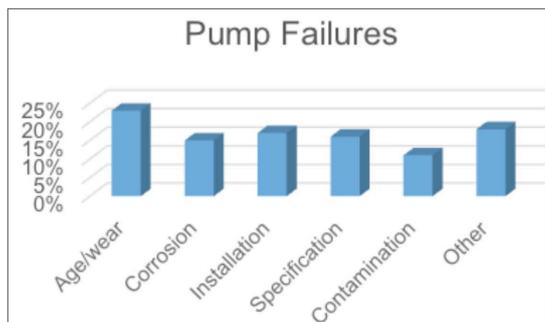
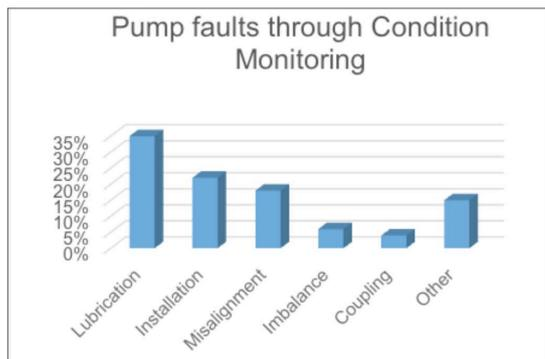

Figure 1 Pump failures
Figure 2 Pump faults
on the analysis of around 4,200 records where accurate and reliable data was cross-referenced with condition monitoring (CM) data – see Figure 1. Similarly, over 3,000,000 CM readings were analysed to produce the top 5 faults – see Figure 2.